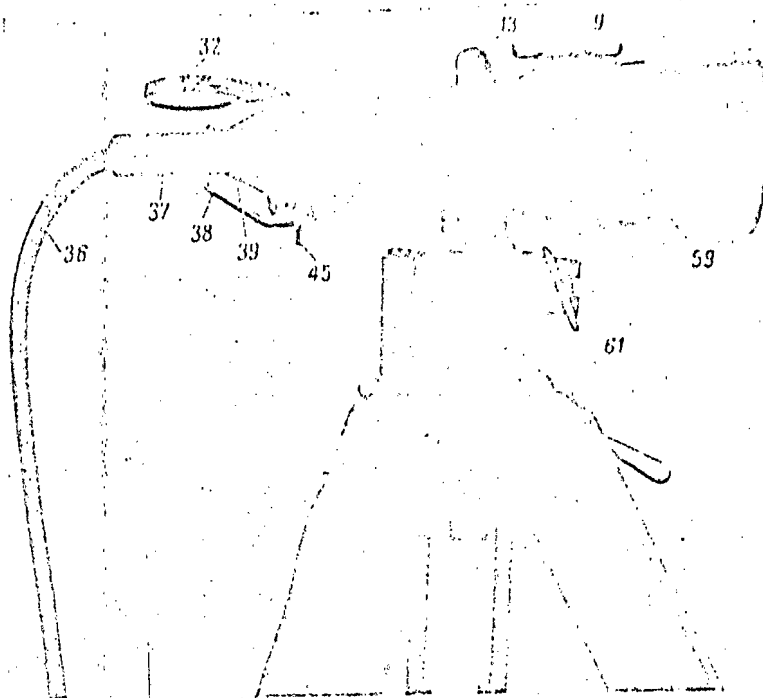

Figure 87. General View of the Gun Collimator:
Gun collimator K-1 (figure 87) is designed for the horizontal laying of the weapon in the absence of natural (distant) aiming points or under conditions of poor visibility — at night, in fog and snowfall, and when blanketing the firing position with smoke.
Level 13 (figure 87) serves to eliminate lateral inclination of the collimator: that is, to set the zones of the collimator graticule in a vertical position. It consists of level ampule 13, ampule mount 14, and protective ring 15. The level is held by a nut in lugs on the housing of the collimator.
3. Remove from the box the collimator with the electrical conductor (figure 87), the bulb socket, and the plug; place the lens hood on the collimator;